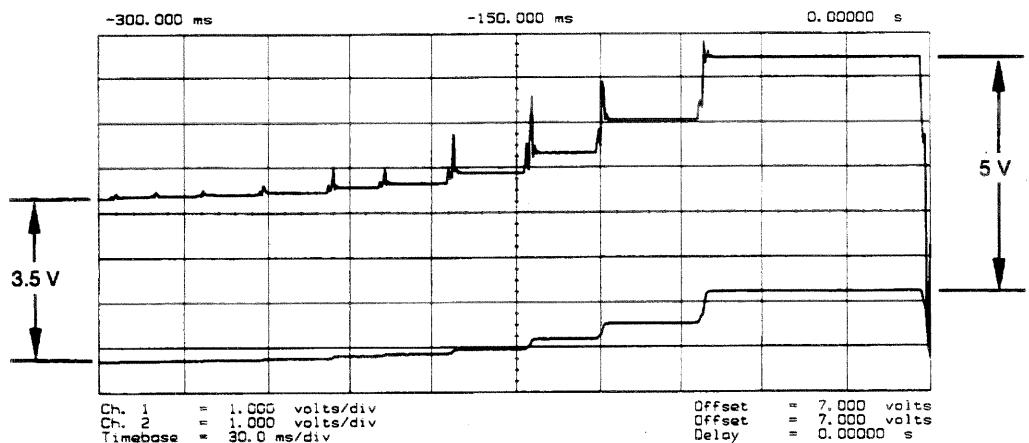

Figure 7-7.
3. Monitor the two YO coil drive lines. In source tune mode the voltage difference should vary from approximately 3.5 to 5.0 volts as shown in Figure 7-7.